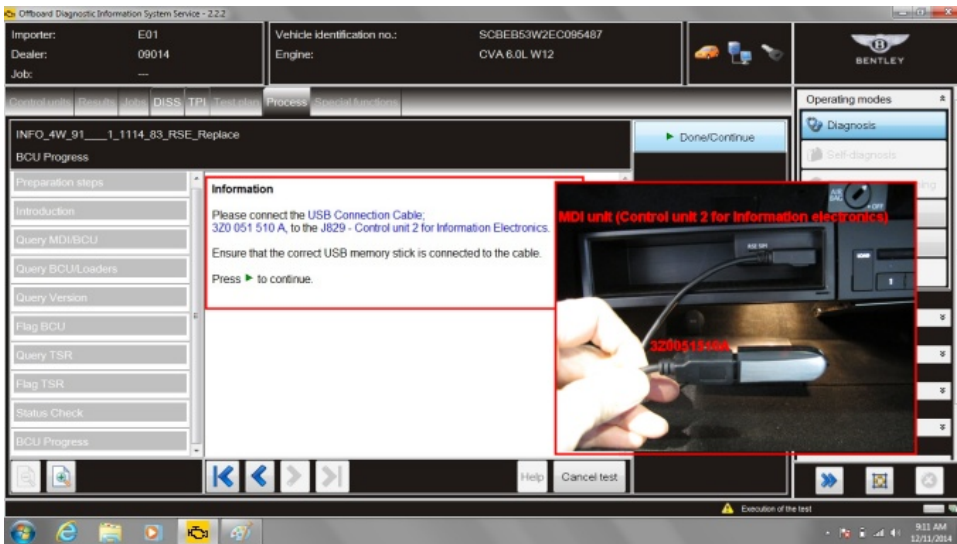

Figure 7
13. As requested connect the USB cable (part number 3Z0051510A) to the memory stick (part number WT10473) and connect that assembly to the MDI unit (Control unit 2 for Information Electronics) located in the glove box. Once connected select Continue (see Figure 7) once connected the update should begin within 5 seconds